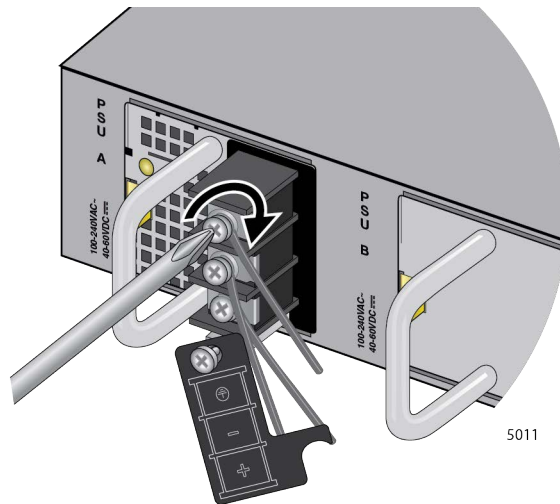

Figure 71. Tightening the Screw for the Negative (+)
- Wind the power wire and tighten the screw. Refer to Figure 71.